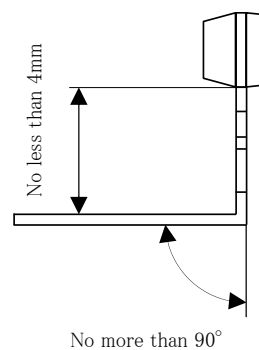

Fig.2 Lead Bending to Be Perpendicular to the Transistor Name Plate Face.
(3) To make a lead bending perpendicularly to the front side of the body as shown in Fig.2, bend at a point more than 4mm down from the body.